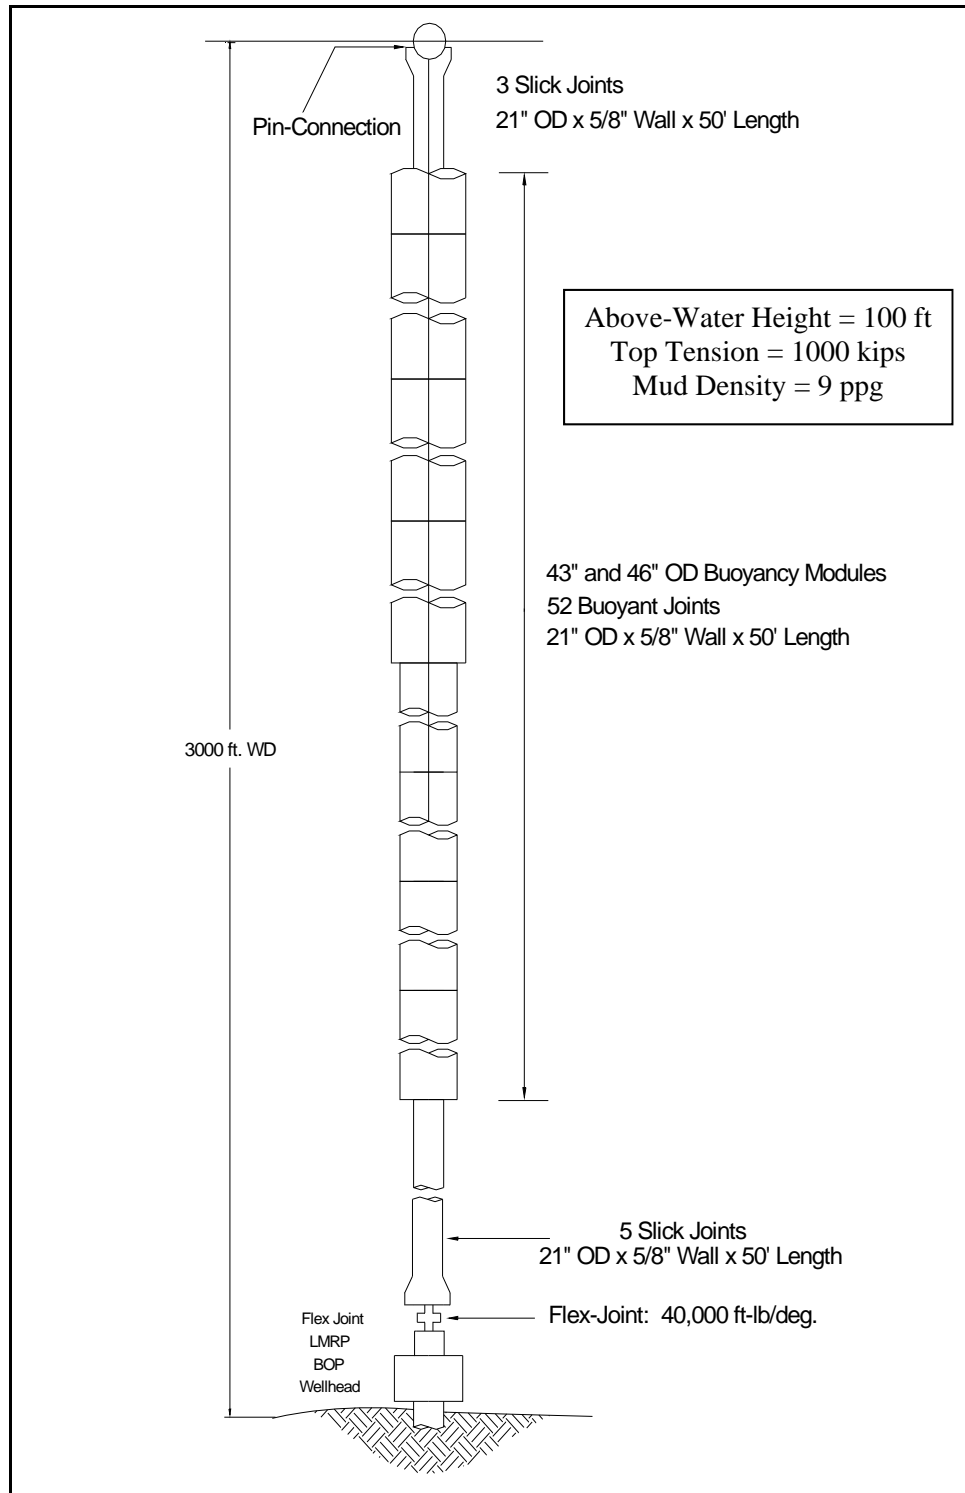

Figure 5.3 Example Problem 3:
- Example 3 is a 3000 ft riser in WOS 1.0 m/s current (Figure 5.3). The riser has a flex-joint at the bottom;